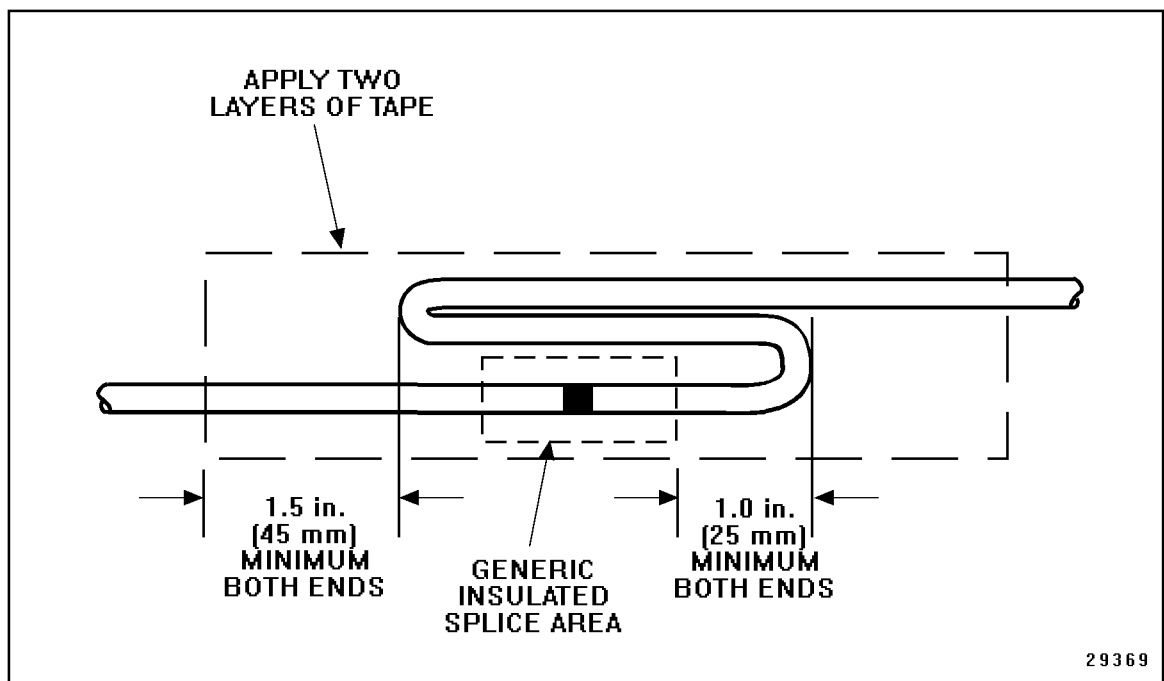

Figure 8-32 Recommended Strain Relief of Spliced Joint
7. Loop the lead back over the spliced joint and tape. See Figure 8-32.